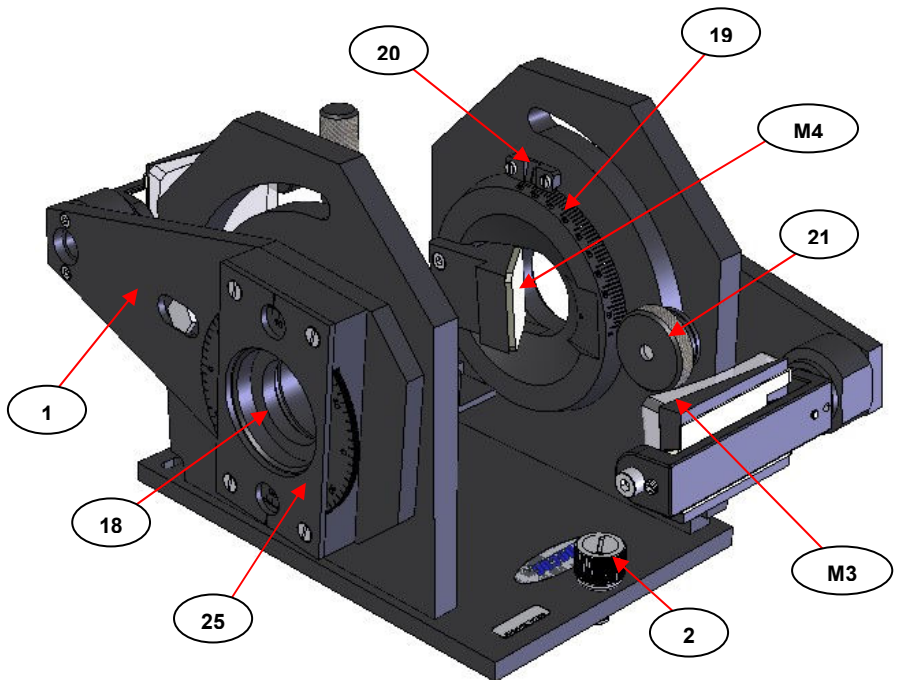
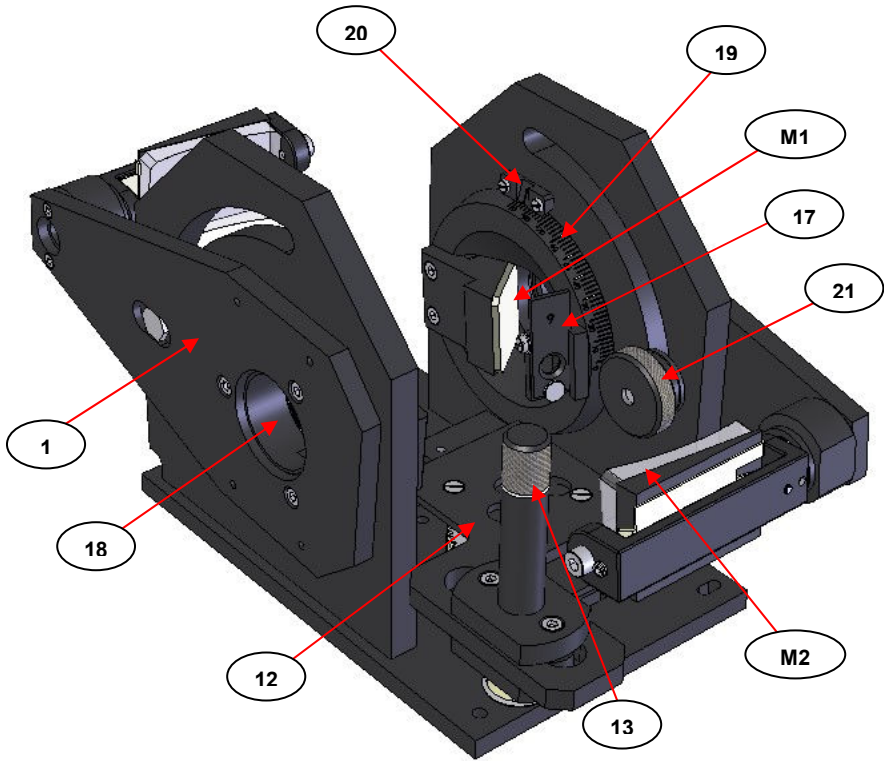

Fig 10. Right Side View of Monolayer Grazing Angle Accessory (Baseplate Fixing Thumbscrew at Rear of Sample Compartment)
Fig 11. Left Side View of Monolayer Grazing Angle Accessory (Baseplate Fixing Thumbscrew at Rear of Sample Compartment)
The Monolayer Grazing Angle Accessory has two very similar butterfly arm (**1**) assemblies. (See **Fig 10.** and **Fig 11.**)
Note: *The views for Fig 10. and Fig 11. are specifically for a Monolayer Grazing Angle Accessory that has been built for use in a **Right to Left Beam** direction spectrometer as the light beam travels through the sample compartment from the source to the detector. In comparison to the light beam passage seen traversing through a **Left to Right Beam** direction system from Fig 1., (page 4), the mirrors **M1**, **M2**, **M3** and **M4** have been relabeled for their particular butterfly arm (1) fixing to replicate the appropriate beam sequence for a right to left beam direction.*
In respect of **the particular beam direction** that applies to the spectrometer system being used, specifically the aperture stop holder mount (17) component of the Monolayer Grazing Angle Accessory will be fitted to one or other of the butterfly arms (1). In the right to left beam Monolayer Accessory example seen as the view for **Fig 11.**, the aperture holder mount (17) is fixed to the right side butterfly arm (1) as viewed from the front of the Accessory. For a left to right beam built Monolayer Accessory the aperture stop holder mount (17) will be fixed to the left side butterfly arm as viewed from the front of the accessory.